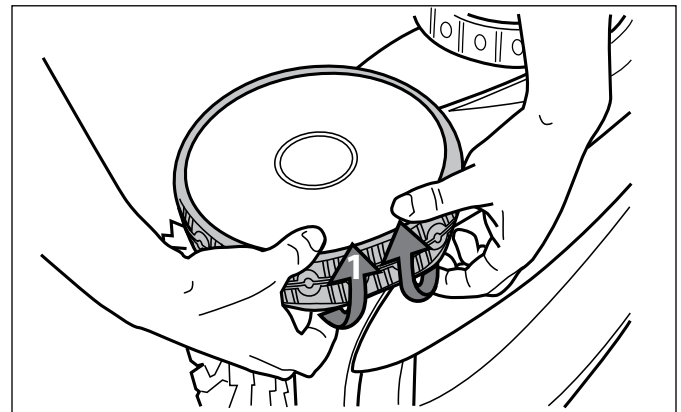

Figure 35. Pull the Old Tire Over the Wheel
1. Pull on the inside of the old tire to remove the tire lip from the wheel (Figure 35).